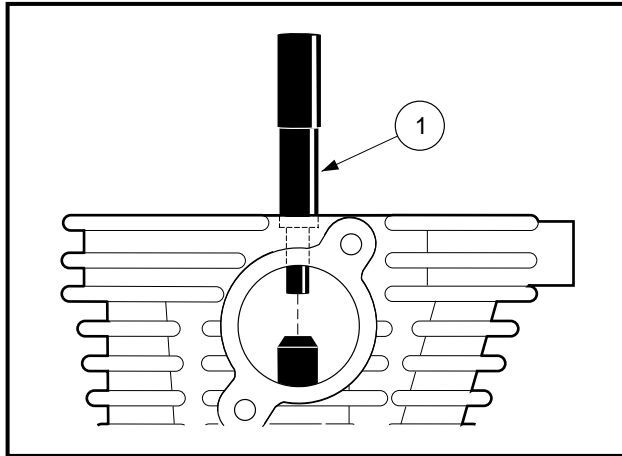

Figure 13-20 Valve Guide Removal
1. With the combustion chamber side of the head facing up, drive the guide out of the head with a valve guide arbor (1) (CCI 101641202) (**Figure 13-20, Page 13-14**).